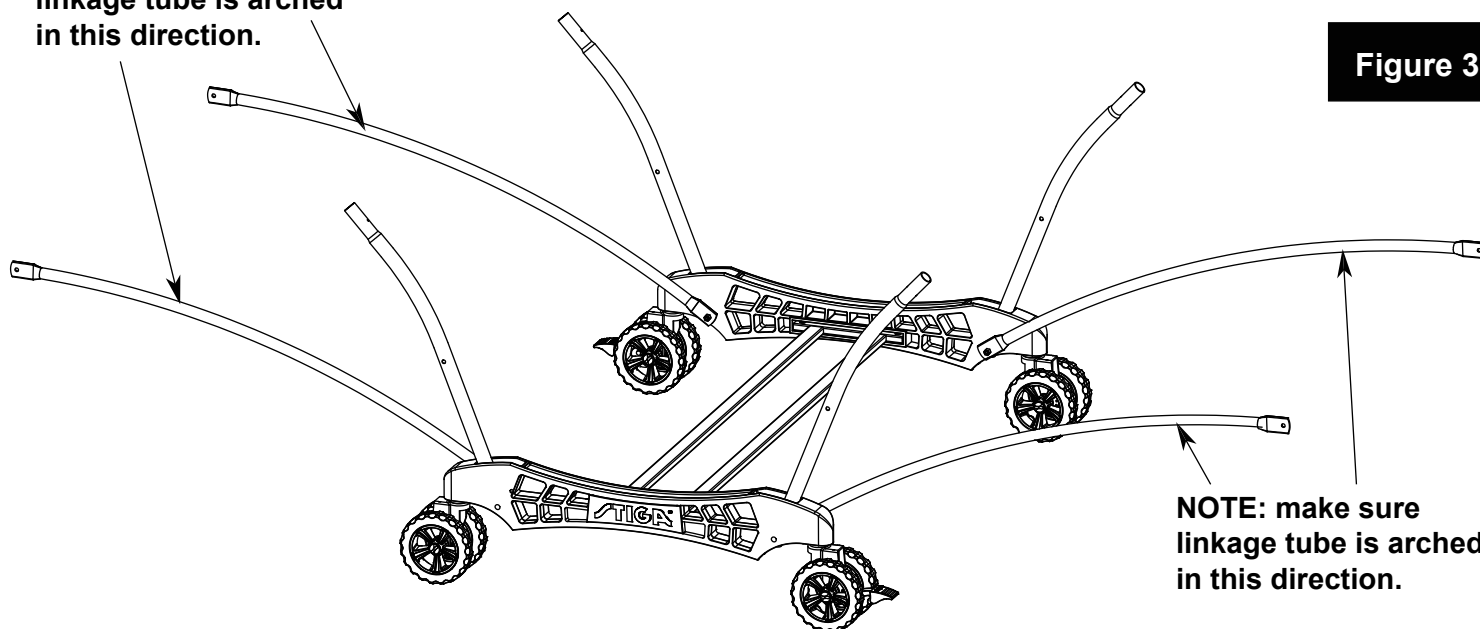

Figure 3
3. Attach four Strut Tubes (#4) and four Linkage Tubes (#25) to Caster Beam Assembly using four Carriage Bolts (#10), four Spacers (#11) and four Locknuts (#14) as shown in **FIGURE 3**.